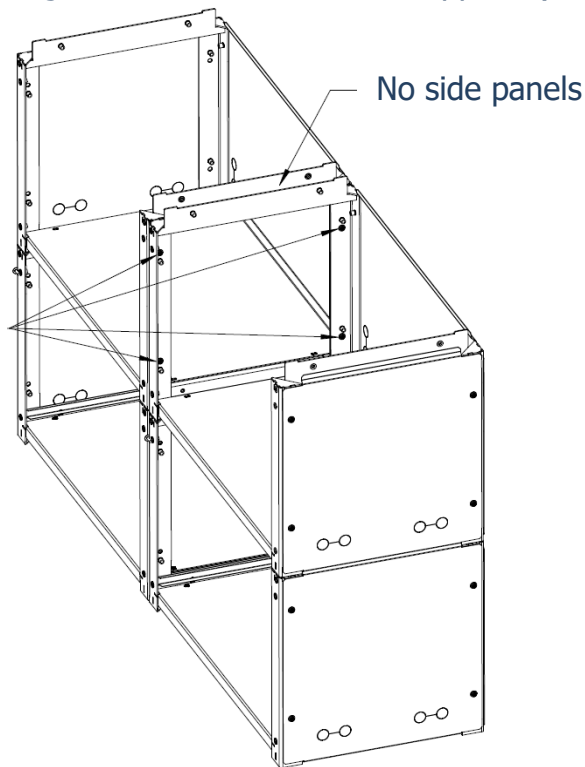

Figure 7
- Place the frame assemblies together as shown in Figure 7. Ensure the frames with vents are at the bottom.